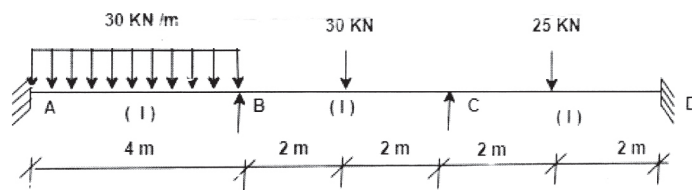

Figure 4
- Q3) a)** Analyze the beam shown in figure 4 by Moment Distribution Method. Draw BMD. [10]